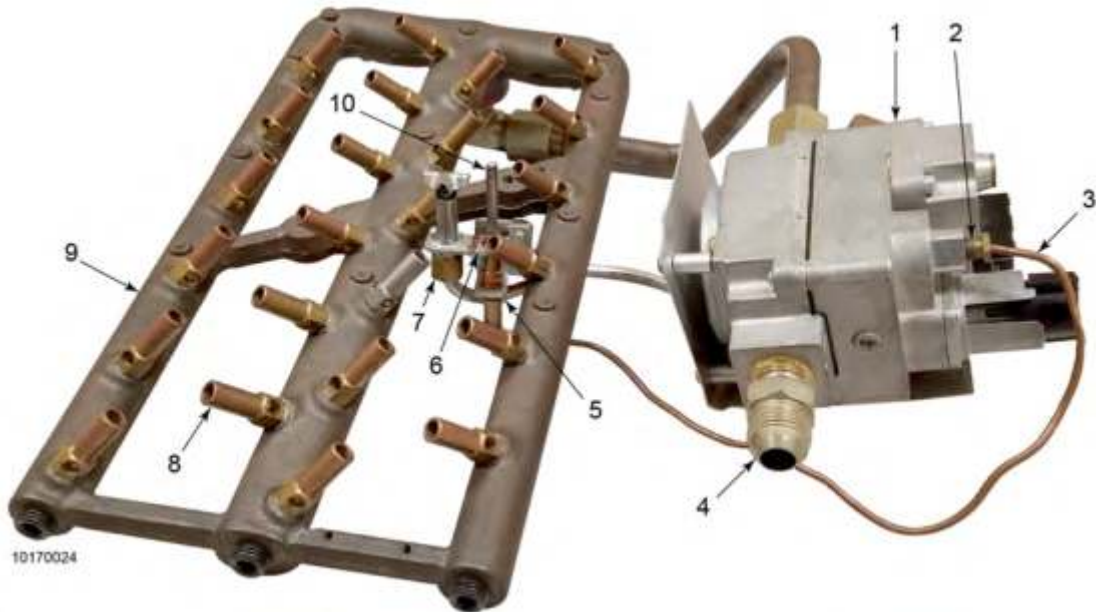

Figure 2-7 Gas Burner Assembly
The gas model fryer has a gas burner assembly consisting of a burner casting (9), orifices (8), thermocouple (3), pilot holder (6), and main gas control valve (1), see Figure 2-7 Gas Burner Assembly, page 28.
- 3) Remove wires from the gas control valve (1), see Figure 2-7 Gas Burner Assembly, page 28.
- Replace the thermocouple (3) as required, per Figure 2-7 Gas Burner Assembly, page 28.
- Repair or replace or replace gas control valve (1) as required, see Figure 2-7 Gas Burner Assembly, page 28.
- Replace orifices (8) as required, see Figure 2-7 Gas Burner Assembly, page 28.
- 1) Using a 3/8" wrench, remove the nut (2) securing the thermocouple in the gas control valve, see Figure 2-7 Gas Burner Assembly, page 28.
- 2) Remove the nut (7) securing the thermocouple in the pilot holder, see Figure 2-7 Gas Burner Assembly, page 28.